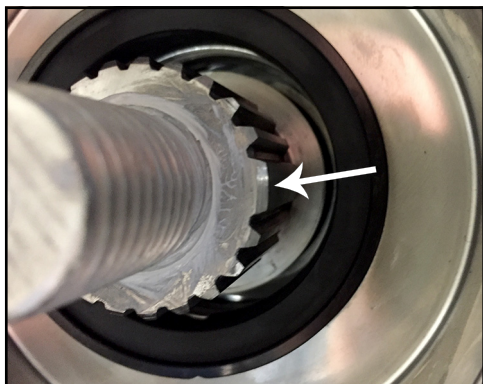

Figure 254 - Timing spline of shaft
2. Figure 254 shows the timing spline of the shaft.